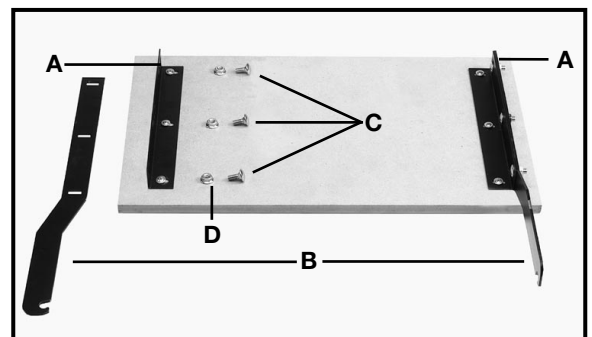

Fig. 4
3. Loosely attach the support arm (B) Fig. 4 to the outside of the angle bracket (A) using three (3) 5/8" carriage head screws (C), and flange nuts (D). Attach the other support arm in the same manner. Repeat steps 2 and 3 to assemble other table board.